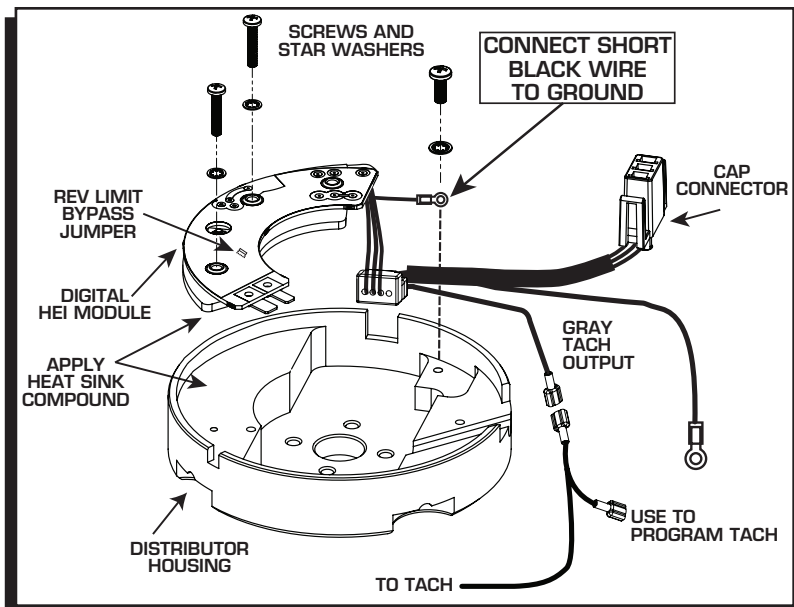

Figure 1 Installing the Module.
4. Route the wiring harness out of the housing and position the short Black wire to ground with one of the mounting screws (Figure 1).
5. Position the module in the distributor then locate the two screws and star washers to secure the module (Figure 1).
No Rev Limit: To disable the rev limit function, cut and remove the jumper shown in Figure 1.